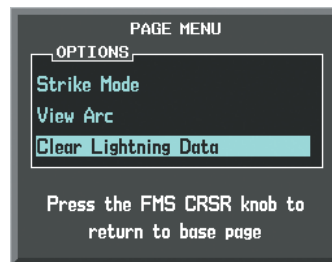

Figure 6-114 Stormscope Page Options Menu
If heading input is lost, strikes and/or cells must be cleared manually after the execution of each turn (Figure 6-114). This is to ensure that the strike and/or cell positions are depicted accurately in relation to the nose of the aircraft.
- 3) Select 'Clear Lightning Data' (Figure 6-114).